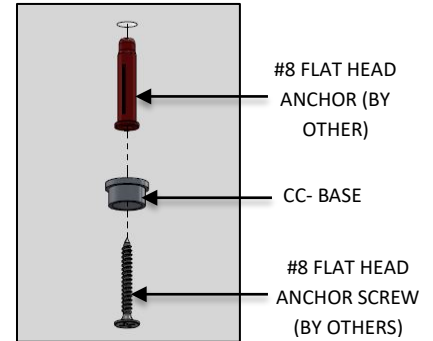

FIG. 24- HARD CEILING INSTALLATION
4. Install the CC-BASE to the #8 FLAT HEAD ANCHOR (by others) previously installed at the non-powered mounting location and secure with the #8 FLAT HEAD ANCHOR SCREW (by others) as shown in FIG. 24.